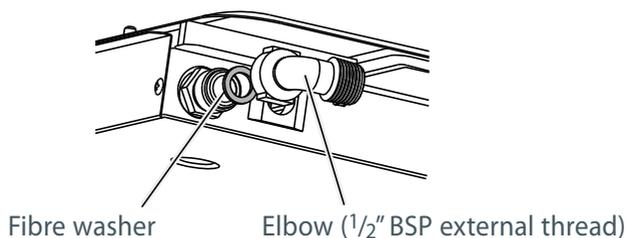

Fig.2 Gas connection to the cooktop (CG604 and CG905DWFC models)
- Ensure the fibre washer (supplied) is located between the elbow (supplied) and cooktop gas inlet (Fig.2). Failure to use this washer will cause the connection to leak. Tighten the floating nut to firm finger tight, plus an additional $\frac{1}{4}$ turn (90°).
- Flexible hose assemblies should be AS/NZS 1869 Class B or Class D certified. The thread connection shall be Rp $\frac{1}{2}$ " (ISO 7-1) female (for CG604 and CG905DWFC models) or male (for CG905DWAC models). See Figs. 2 and 3.